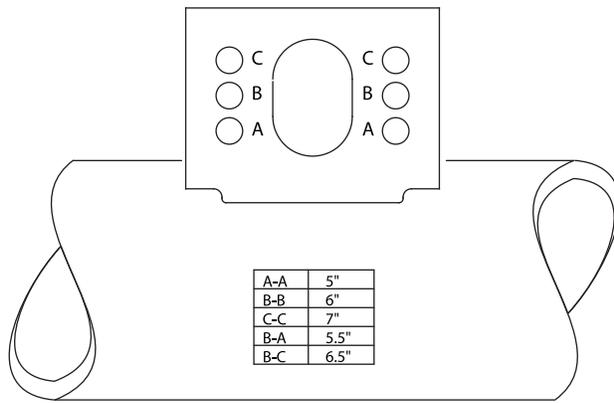

Figure 5. Brake adjuster mounting holes
- When air brake chambers are installed, the correct mounting holes must be used to correspond to the brake adjuster length (see figure 5).